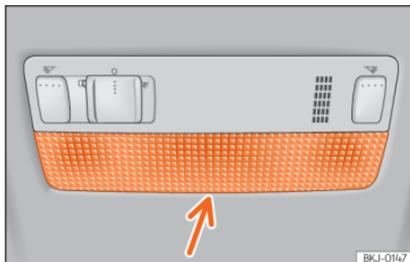

Fig. 63 Front reading light.
- Insert a fine screwdriver between the casing and the glass »» **Fig. 63**.